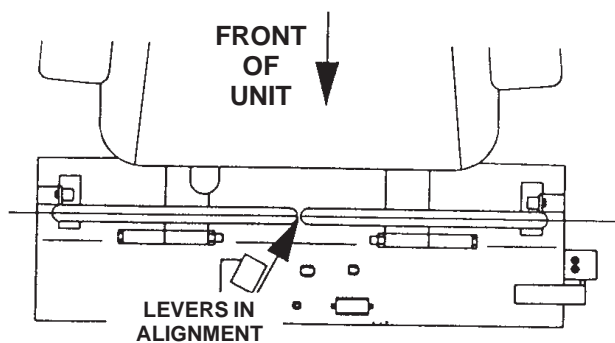

Figure 5
- If the ends of the levers hit against each other, while in the drive position (Fig. 5) (levers rotated in as far as possible) make adjustments by moving the levers outward to the neutral lock position and carefully bend them outward. Move them back to the drive position and check for clearance. Repeat if necessary.